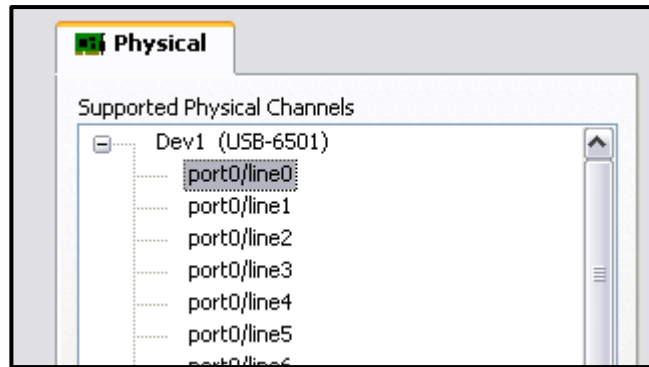

Figure 71. Choose a line.
6. Choose a line from any of the ports and click Next [Figure 71].